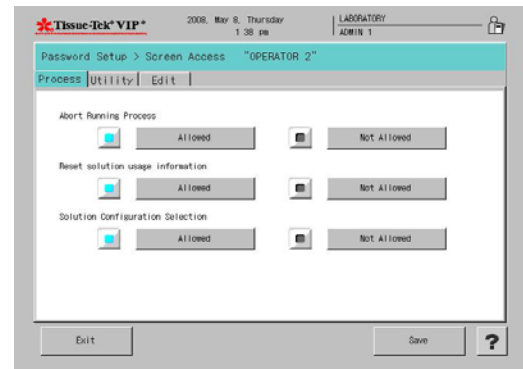

Figure 3-K
- The Password Setup>Screen Access screen displays (Figure 3-K). This screen displays three tabbed pages: Process, Utility, and Edit. Each tabbed page enables the administrator to grant or deny a user access to specific functions.
Process Tab (Figure 3-K) – sets permissions for Abort Running Process, Reset Solution Usage Information, and Solution Configuration Selection. The default setting for each function is “Allowed”. Touch each function as necessary to change permissions from Allowed to Not Allowed. Touch Save to save settings and return to the Password Setup screen or touch exit to return without saving changes.